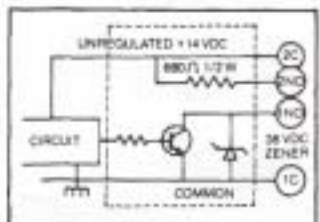

Fig. C1: Logic Output (G)
- Optional - 'G' Logic output: SPNO NPN transistor  $V_{ce(sat)} = .5V$  Max. @ 10 ma. 1.5V Max. @ 100 ma.  $V_{ceo} = 30$  VDC Max.,  $I_c = 100$  ma Max. See Fig. C1.
An open-collector NPN transistor or an opto-isolated NPN transistor. See Fig. C1 or C2. This output is used primarily to interface the output of the control to logic devices such as programmable controllers, computers and electronic counters. Not UL Listed. Add "G" or "GA" to end of model number. Example: RPF303G